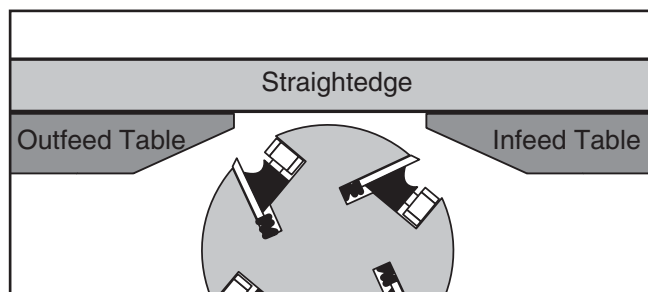

Figure 63. Infeed and outfeed tables set evenly (knife-style cutterhead shown).
3. Rotate the cutterhead so the knives/inserts will not interfere, then place the straightedge halfway across the infeed table and halfway over the outfeed table and adjust the infeed table even with the outfeed table, as shown in **Figure 63**.
6. Place the straightedge halfway across the infeed table and halfway over the outfeed table, and adjust the infeed table even with the outfeed table, as shown in **Figure 63**.